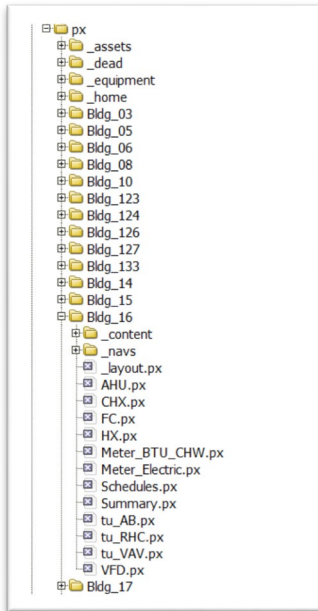

Figure 1 – Building 16 Graphics File Folder
- Graphics files shall be placed on the BMS Supervisor in a folder provided and assigned by Caltech Controls. Figure 1 below shows the folder to use for a Building 16 graphics file.